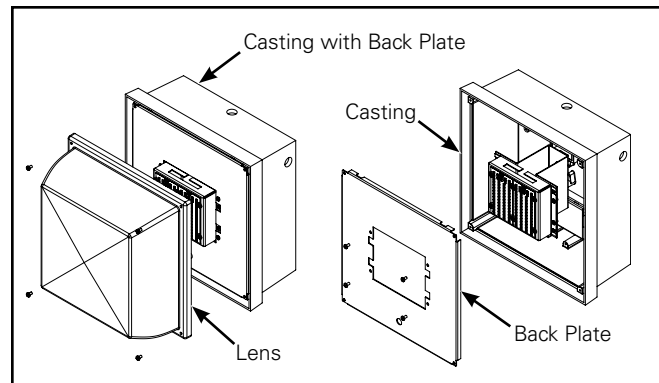

Figure 9.
2. Remove back plate using Philips screwdriver (Figure 9).